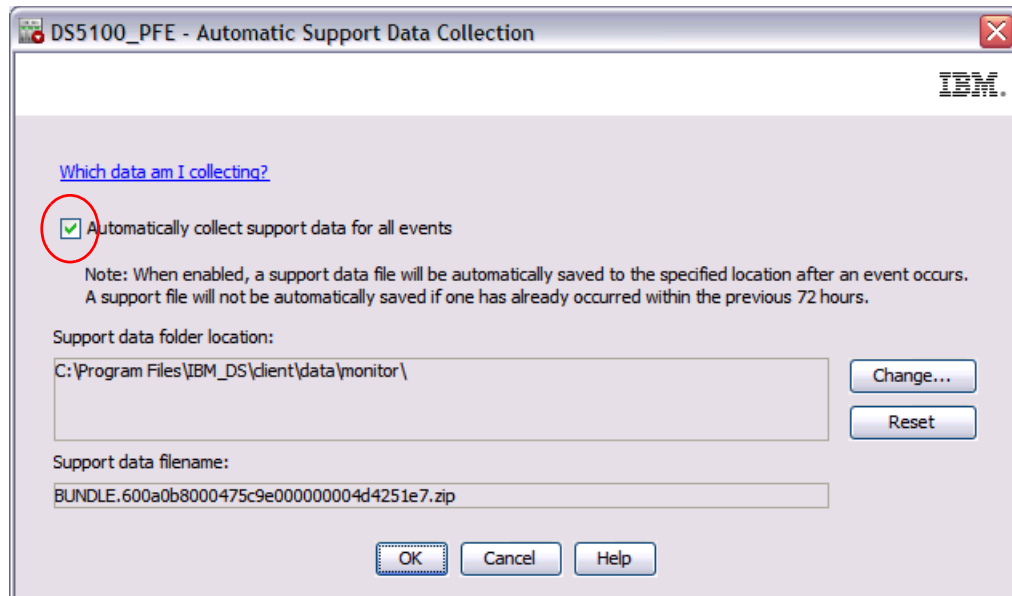

Figure 5-63 Enabling Automatic Data Collection
2. Select the check box to enable the automatic data collection and specify the destination folder, as shown in Figure 5-63.